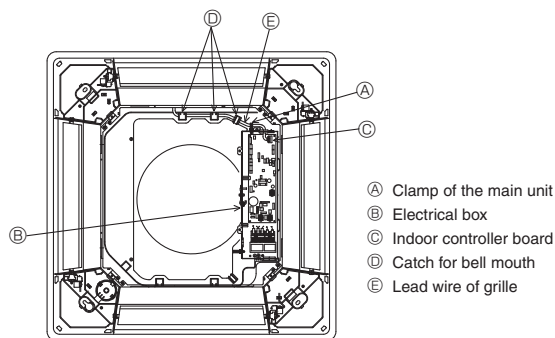

Fig. 9-8
9.4.4. Wire connection (Fig. 9-8)
- As for PLP-6BALM (E), the connector of wireless sensor cable is also connected to connector CN90 on indoor controller board.